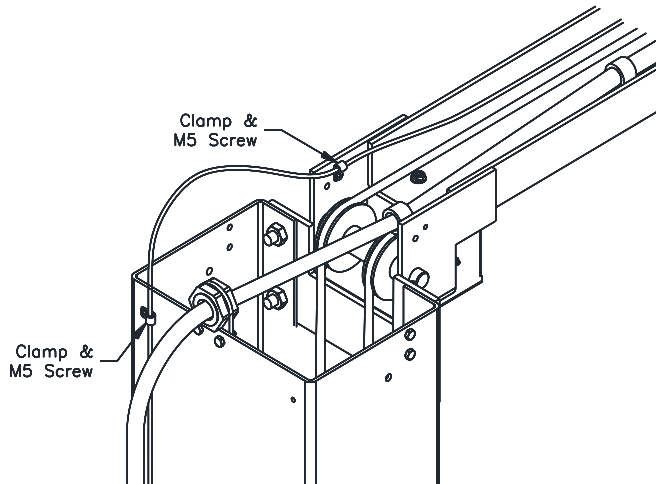

Fig. 9 – Lock Cable Routing
- 29) Secure Lock Release Cable at the top of each column extension as shown in Fig. 9. Lock Release Cable should be routed on the opposite side of the Overhead Beam as the Idler Hose to prevent interference.